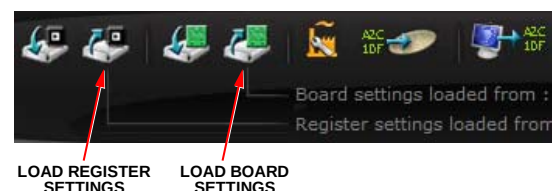

Figure 14. Icons Show Loading of **.46r** and **.46b** Files
4. The following step is optional; the ADP1046A in the evaluation kit comes preprogrammed with the board and command settings. To load the default command and board settings file from a local folder, click the **Load register settings** icon and the **Load board settings** icon (see Figure 14).